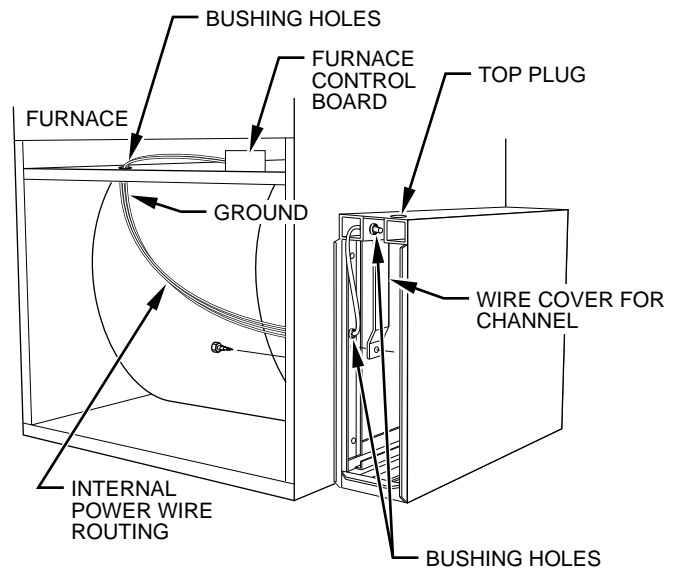

Fig. 10—Wire Routing
1. With power door removed, remove junction box cover adjacent to female plug on casing upper channel. (See Fig. 10.)
3. Install protective bushing through top rail as shown in Fig. 10.
5. Route power wires through bushing channel at top of cabinet, down side channel, and through bushing in side channel and into furnace opening. (See Fig. 10.)
2. Cut EAC wires to 6 in. long. Strip the ends. Using field-supplied wire nuts connect power leads to black and white pigtailed extending from female receptacle. (See Fig. 10.)